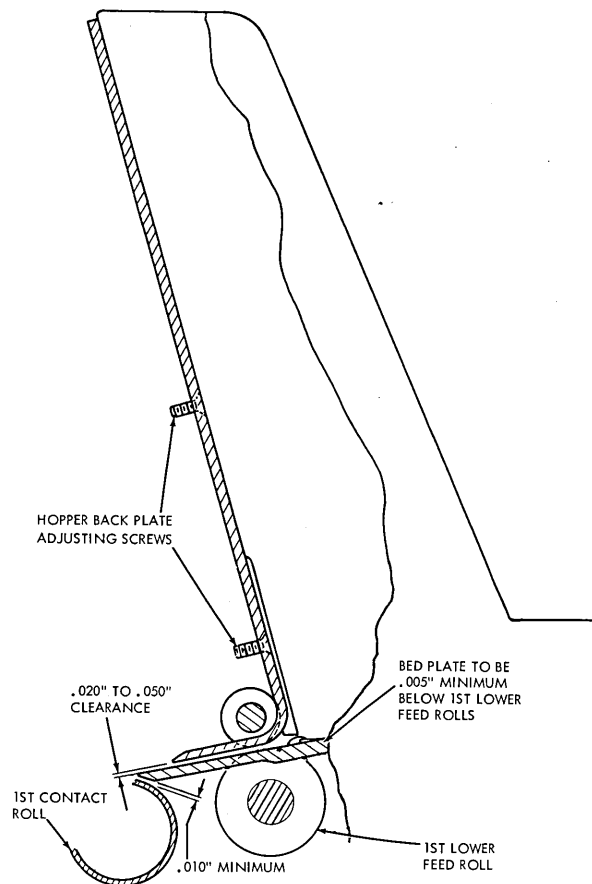

Figure 1. Hopper Backplate
5. There must be .020" to .050" clearance between the fingers of the hopper back plate and the hopper bed plate (Figure 1).